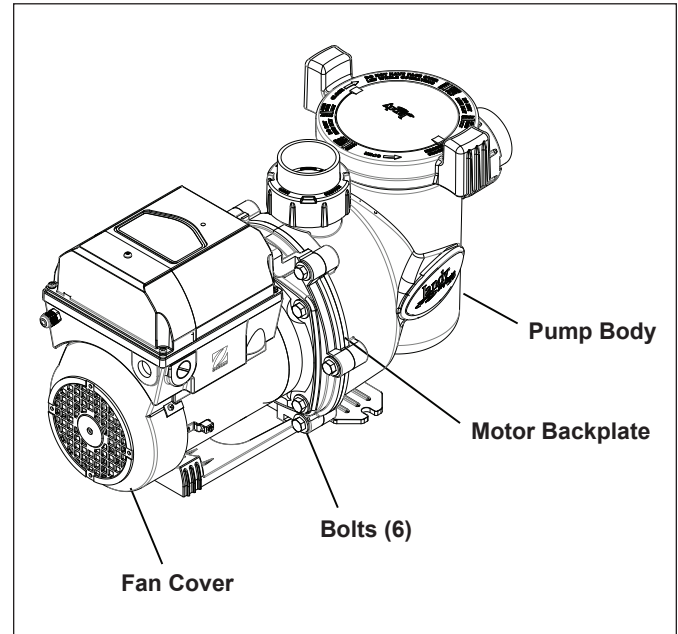

Figure 13. Remove the Pump Housing
3. Using a 9/16" wrench, loosen the bolts connecting the pump body to the motor backplate. See Figure 13.